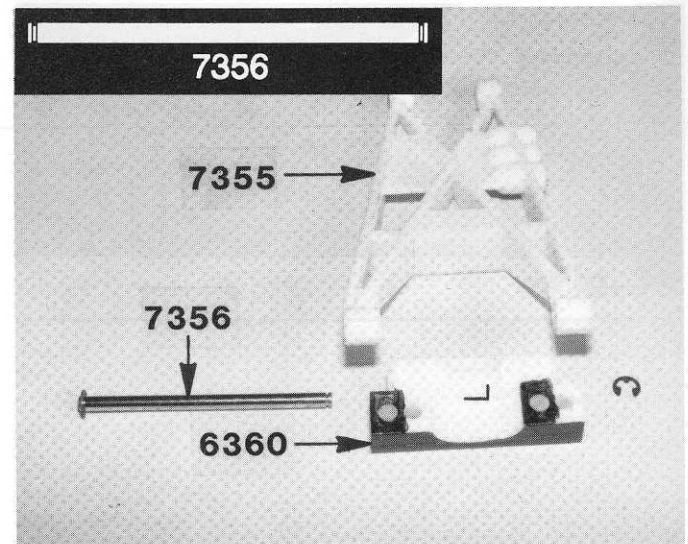
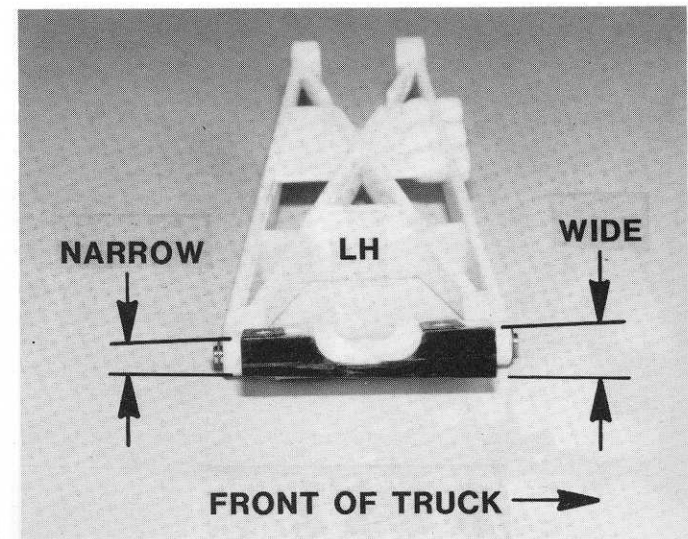

Fig. 86
Fig. 87
□ **Figs. 86, 87 & 88** From Bag 7-8 take the #6360 rear suspension mount out. (Note: the left and right rear mounts are attached together by a thin "runner" that should be removed with scissors.) We want the left hand one. It will have the letter "L" on the bottom. (Fig. 87 shows another way to identify it.) Take the #7355 left A-arm, remove the runner, and #7356 inner rear hinge pin and make sure the arm can swing freely on the pin. We want the pin to fit tight in the mount. Install the left hand mount to the left hand A-arm. Secure the pin with two #6299 E-clips. Do the right hand side.